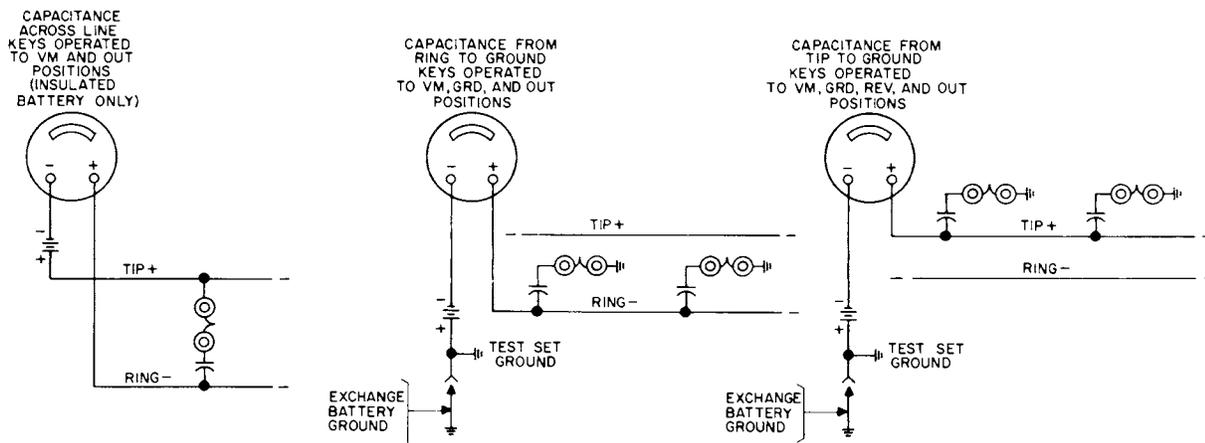

Figure 11. Capacitance tests.
- a. Capacitance across line - insulated test battery only (figure 11). The OUT/IN key will remain operated to the OUT position and the VM key will remain operated. There should be a momentary deflection of the voltmeter needle. Then, alternately operate and release the WC LINE/REV key to the REV position. There should be a corresponding "kick" of the voltmeter needle due to charge and discharge of the capacitor under test. If the REV key is operated and restored rapidly the deflection of the needle will remain steady and the capacitance of the capacitor under test may be compared with a capacitor of known value.
- b. Capacitance from ring to ground (figure 11). Operate the IMPULSE TEST/GRD key to the GRD position. Operate the OUT/IN key to the OUT position. Rapidly operate and
- c. Capacitance from tip to ground (figure 11). Operate WC LINE/REV key to REV position. Perform remainder of test as in b. above.